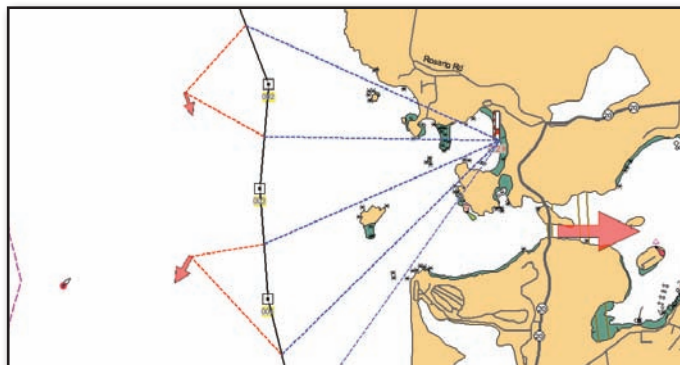

Figure 14.5 - Tide and Current Stations
3. A dotted line (see **Figure 14.5**) should appear between the tide or current station and the route leg (**red** dotted line for currents or **blue** dotted line for tides).